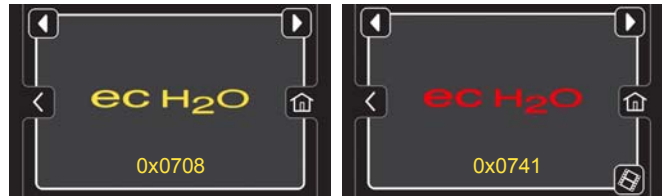

FIG. 77
**Yellow ec-H2O Fault Screen** - Machine detected an ec-H2O system water or plumbing fault (Figure 77).
**Red ec-H2O Fault Screen** - Machine detected an ec-H2O system electrical fault (Figure 77).